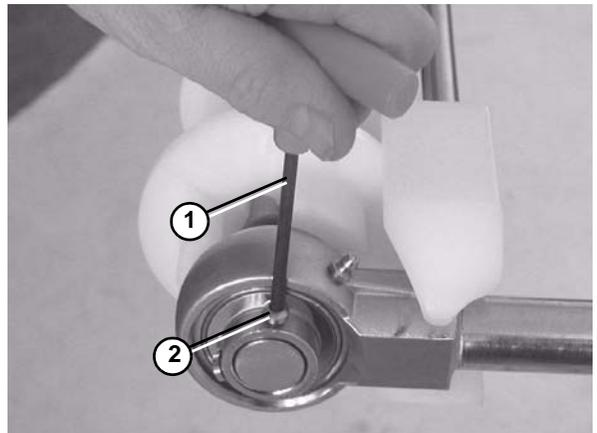

Figure 77
- Use a hex wrench (**Figure 77, item 1**) to tighten the bearing shaft fasteners (**Figure 77, item 2**) to 54 in•lbs. Check after 24 hours of conveyor use.